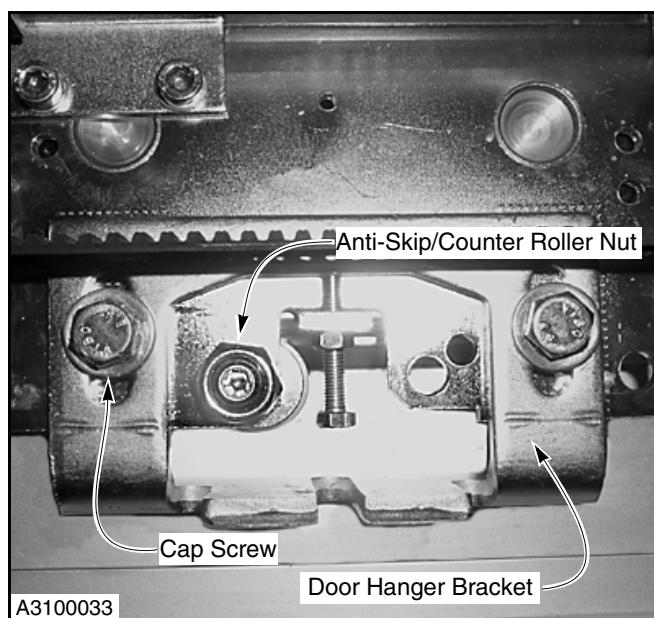

Figure 7
NOTE: The trolleys are shipped with the anti-skip/counter roller nut tight. (See Figure 7.) This prevents the door from sliding back and forth during transport. Prior to adjustment, loosen this nut and adjust the distance between the roller and the bottom of the track to $\frac{1}{16}$ in.
- a. Loosen cap screws to the door hanger bracket. (See Figure 7.)